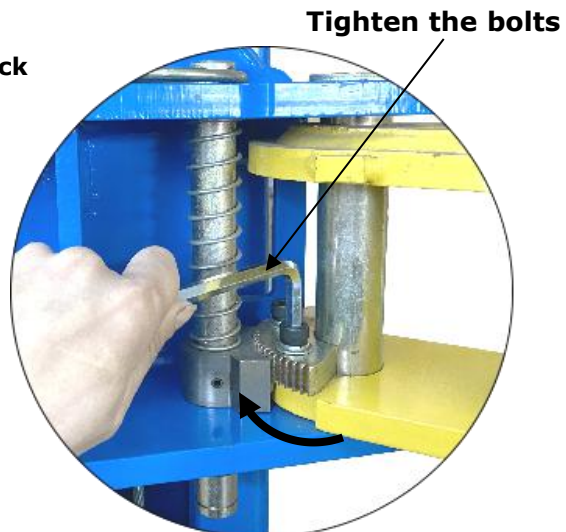

Fig. 38
4. Adjust moon gear and arm lock to make it to be meshed, then tighten the socket bolts of arm lock (See Fig.38).
Single phase motor.(See Fig.38)